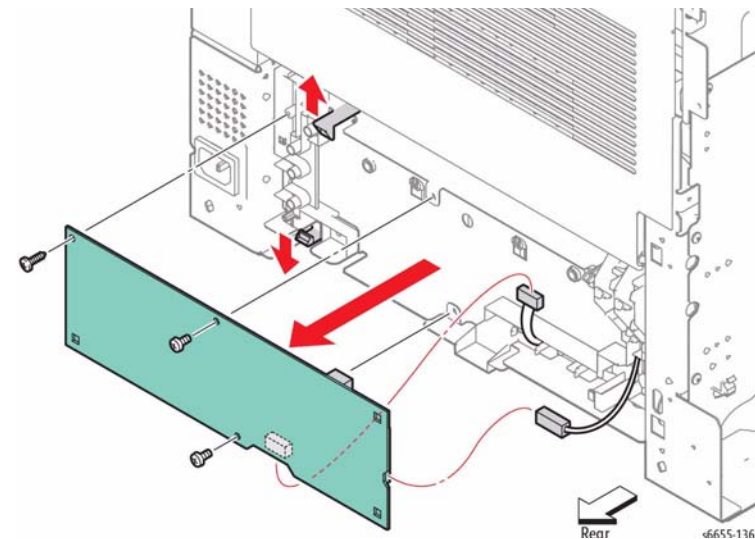

Figure 1 Unplug the Connectors to the Transfer HVPS Board and Remove the Board
8. Refer to Figure 1 to locate and unplug P/J1821 and the Faston connector from the Transfer HVPS Board and remove the board.